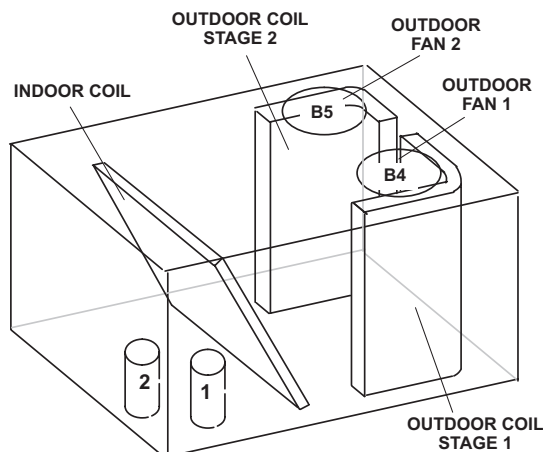
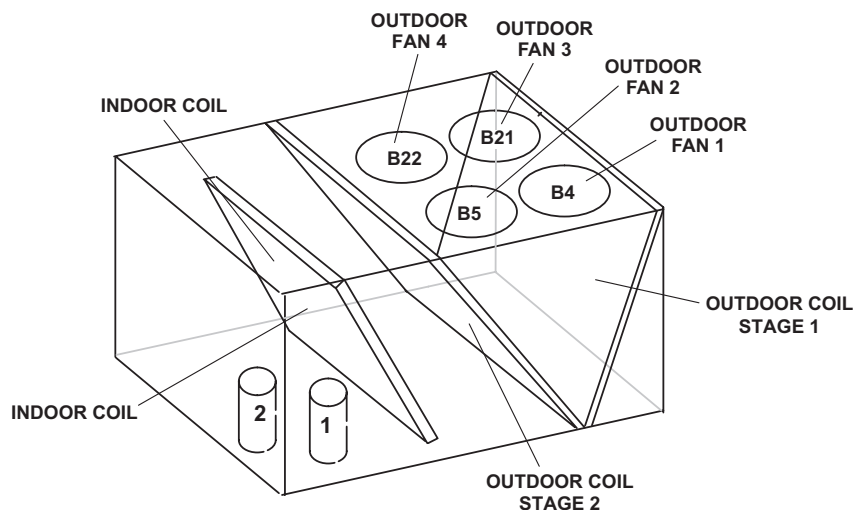

Figure 38
Figure 39
- 3 - Units have two refrigerant circuits. See Figure 38 or Figure 39.